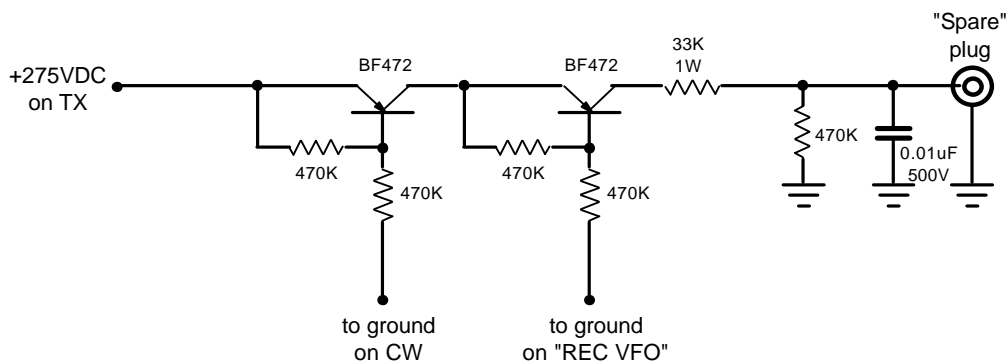

Fig. 4 Additions to the 32S3
Fig. 4 shows the schematic diagram of the additions to be made in the 32S3.
- the possible absence, on the transmitter switch wafers, of the contacts marked “to ground on CW” and “to ground on REC VFO” in fig. 4. In that case you shall devise some other way to produce a +275VDC voltage (through a 33K resistor) when the transmitter is on CW and on transmit;